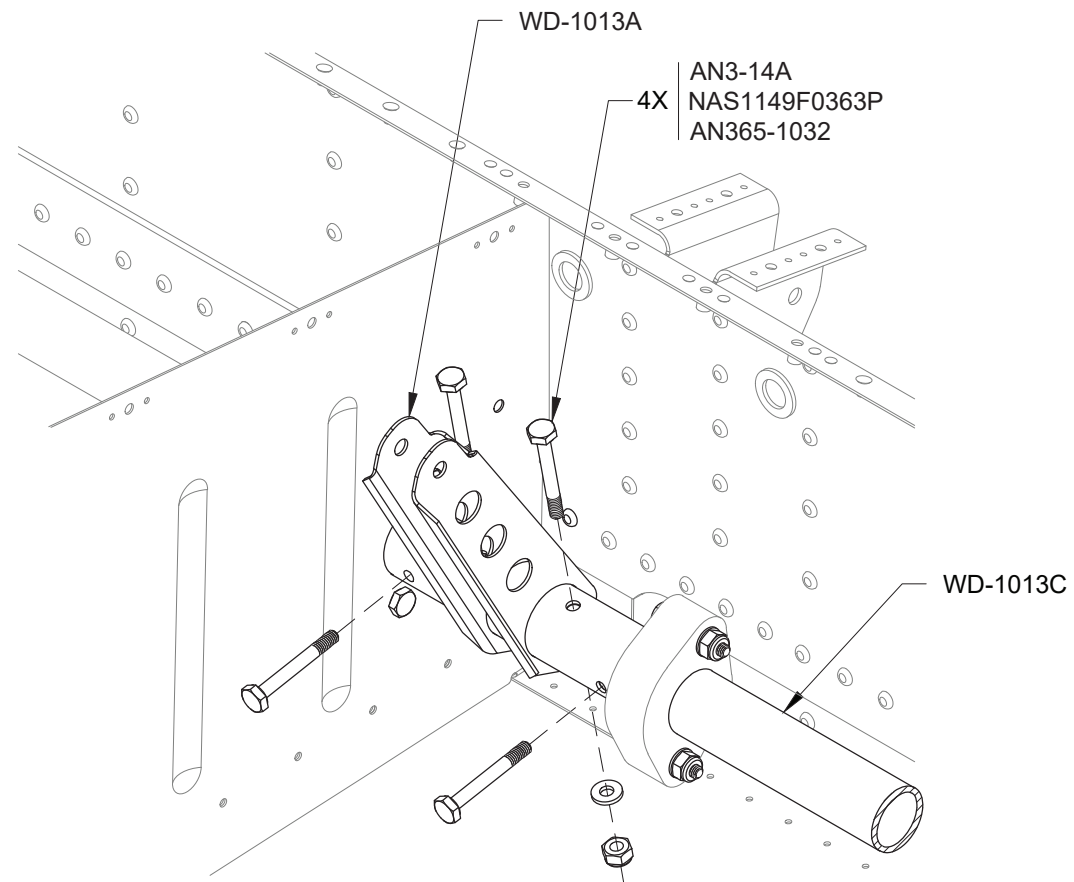

FIGURE 1:
Step 1: Bolt the WD-1013A Flap Crank to the WD-1013C Flap Torque Tubes per the call-outs in Figure 1.